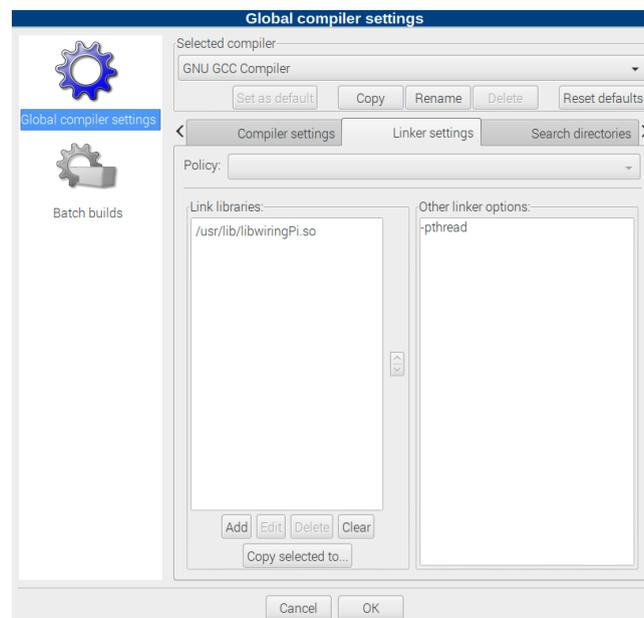

Figure 6: Codeblocks linker settings
6. Now include the wiringPi libraries into codeblocks by opening the global linker settings in **Settings** → **Compiler** → **Linker Settings** and adding the library **/usr/lib/libwiring-Pi.so** to the **Link libraries** field (see figure 6).